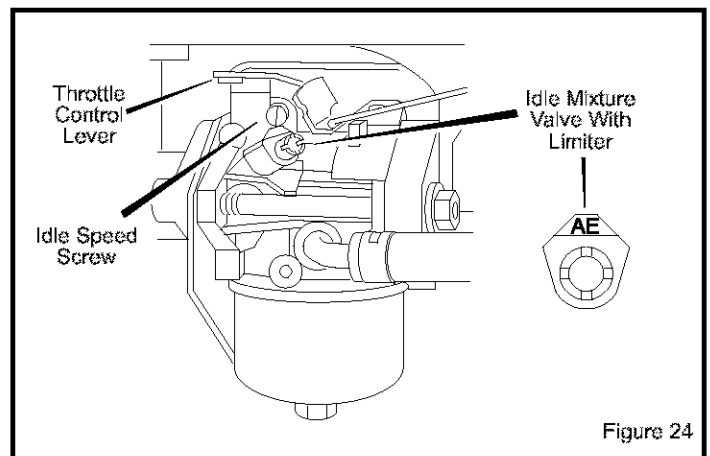

Figure 24
3. Rotate the carburetor **throttle control lever** against the **idle speed screw** and hold it (see Figure 24). Then, turn the **idle speed screw** to obtain 1750 rpm (use a tachometer).